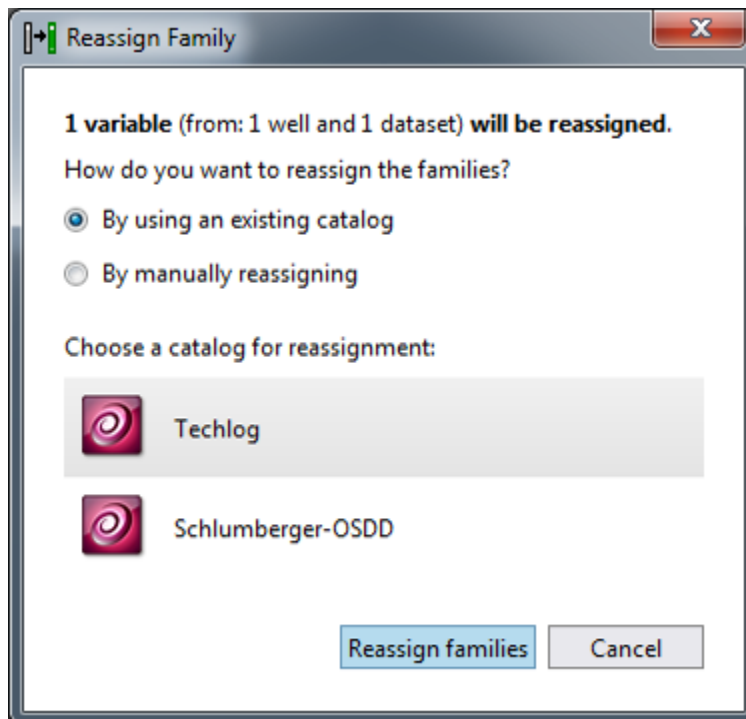

Figure 11: Reassign Family window 1.
3. In the window that opens, keep the default selections and click the Reassign families button (Fig. 11).